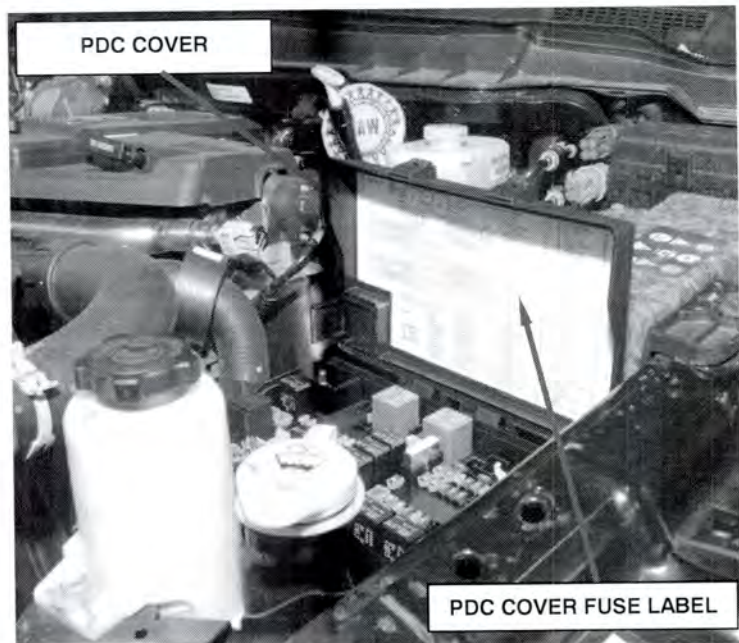

Figure 3 – PDC Cover Fuse Label Installed
6. Remove the new PDC cover fuse label from its backing paper and carefully install it over the existing PDC laser etching (Figure 3).
7. Install the PDC cover to the PDC (Figure 3).